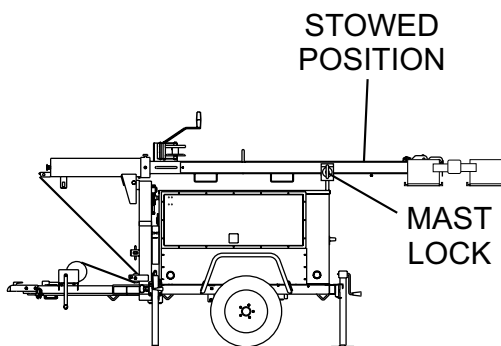

Figure 15. Light Tower in Stowed Position
2. If the light tower is in the deployed position, place the tower mast into the cradle support (stowed position). See Figure 15. Make sure cradle lock/release pin has been inserted and the mast is locked.